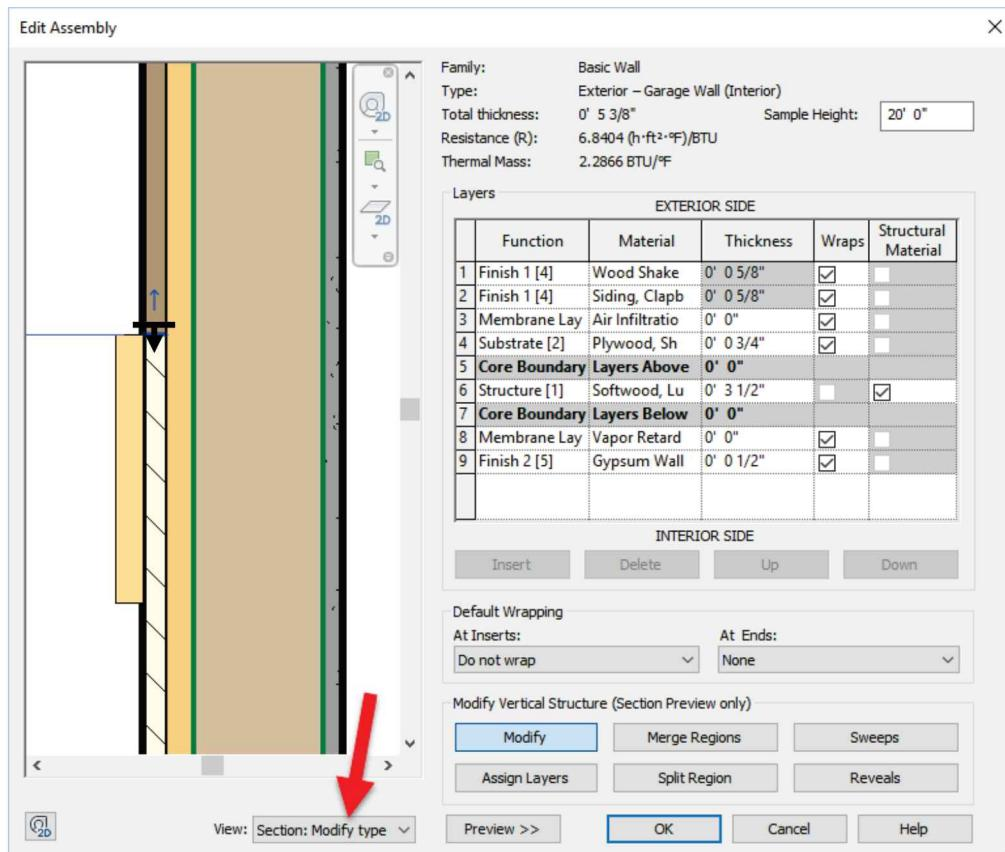

FIGURE 5-3.7 Edit Assembly dialog
The *Edit Assembly* dialog shown in Figure 5-3.7 will be modified in the following way. This is just an overview; the detailed instructions will follow:
- Looking at Figure 5-3.7, you can visually see which layers are split vertically by looking at the Thickness column; the shaded “Thickness” cells are “vertically stacked” layers.
14. In the *Edit Assembly* dialog make sure the *Preview* pane is visible (*click on the <<Preview button*) and then select **Section: modify type attributes** from the *View* list (Figure 5-3.7).
18. Using the *scroll wheel* on the mouse, zoom in on the region split line at the top edge of the vertical dimension; you need to click in the *Preview* window to activate that area first (Figure 5-3.7).
19. Move your cursor over the short horizontal line and then tap the **Tab** key until the cursor changes to a horizontal line with an arrow pointing downward and the tooltip states that **Layer 1 and Layer 2 will be merged** (see Figure 5-3.7), and then click.